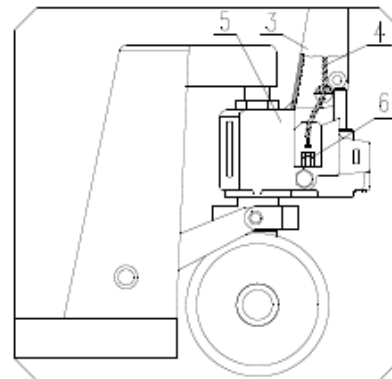

Figure 2.
- 3.4 See fig 2. Put the chain 4 of hand grip get across the middle hole of pin roll 1.
3.5 Take screw nut which is at the end of chain 4 and hitch the groove of lever board 6. fig 2 and fig 4.